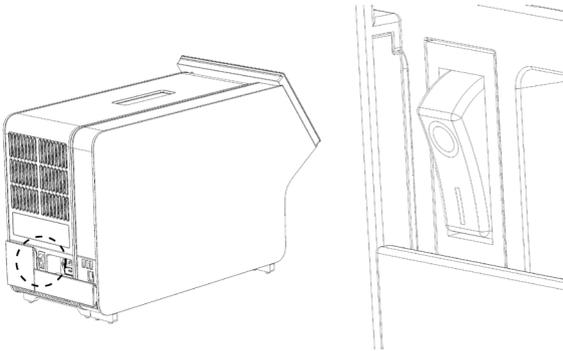

**Figure 17. Connecting the power cord.**
8. Connect the power cord that was delivered with the QIAstat-Dx Analyzer 1.0 to the back of the original Analytical Module (Figure 17).